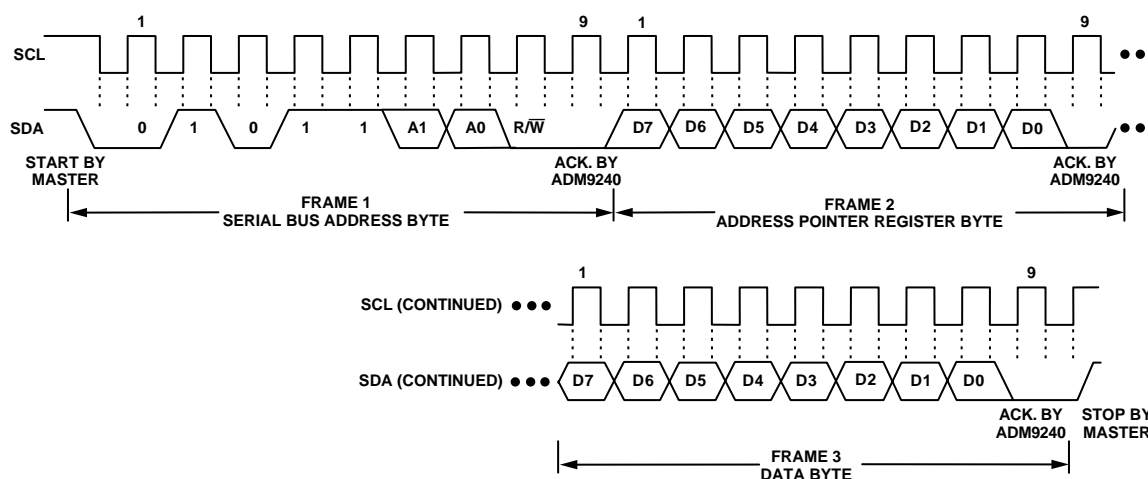

Figure 2a. Writing a Register Address to the Address Pointer Register, then Writing Data to the Selected Register
This is illustrated in Figure 2a. The device address is sent over the bus followed by R/\bar{W} set to 0. This is followed by two data bytes. The first data byte is the address of the internal data register to be written to, which is stored in the Address Pointer Register. The second data byte is the data to be written to the internal data register.
2. In Figures 2a to 2c, the serial bus address is shown as the default value 01011(A1)(A0), where A1 and A0 are hardwired to either Logic 0 or Logic 1.